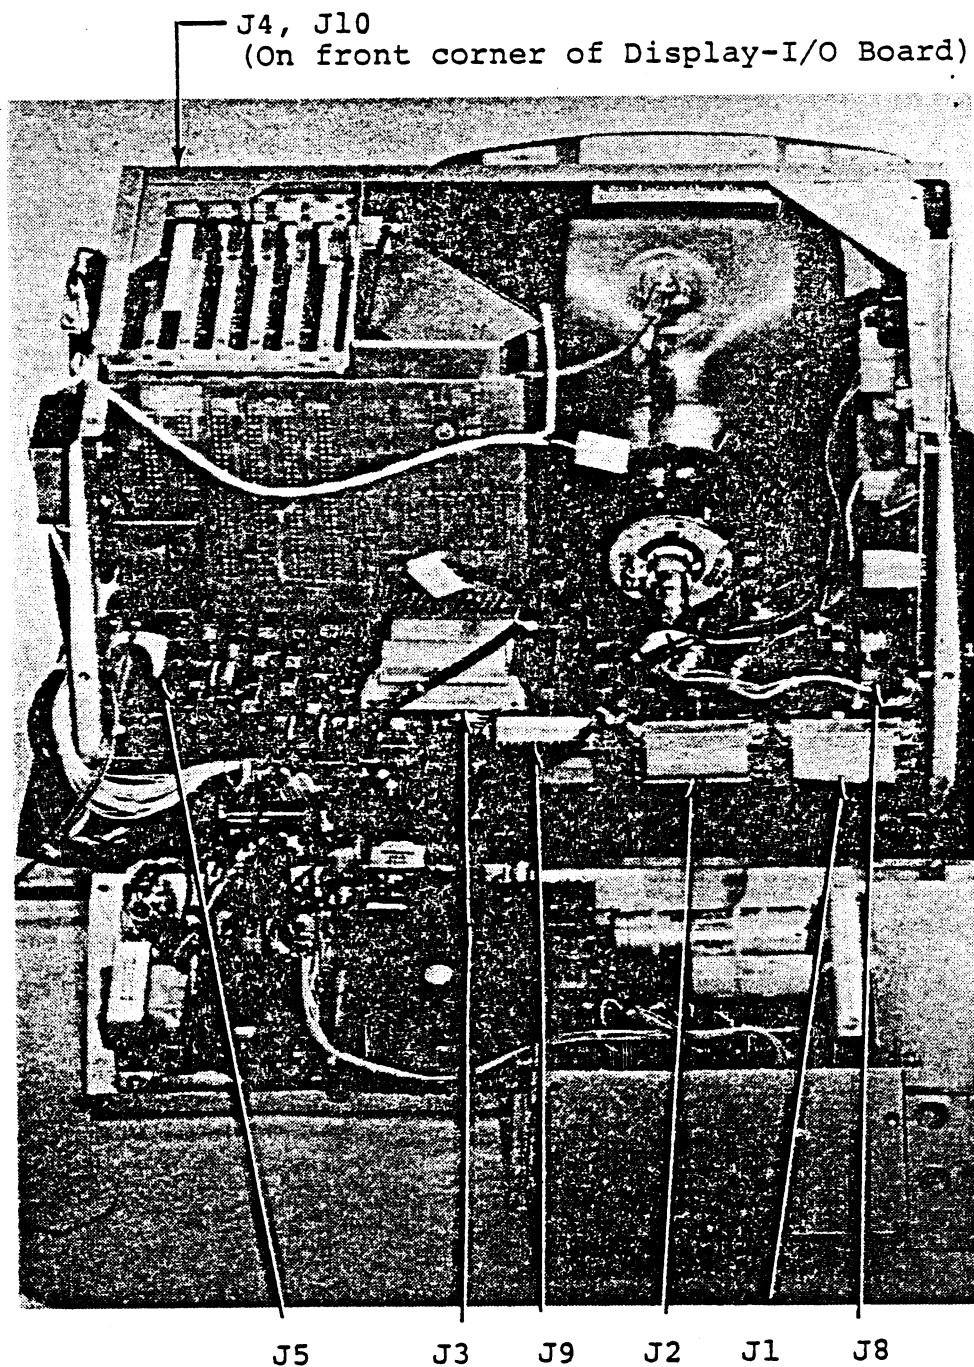

Figure 5-4. Display-I/O Board
- e. On the display-I/O board (Figure 5-4), disconnect J1 thru J5, J8, J9, and J11.